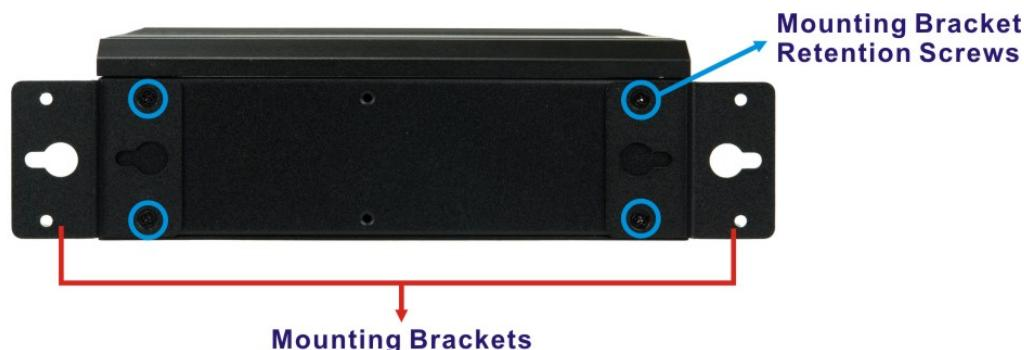

Figure 3-21: Mounting Bracket Retention Screws
Step 2: Secure the brackets to the system by inserting two retention screws (M3*5) into each bracket (**Figure 3-21**).